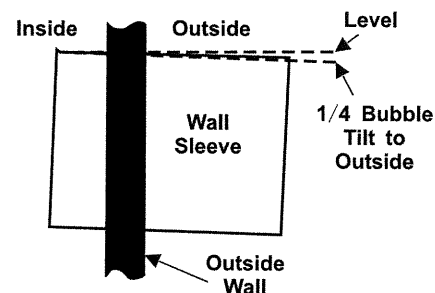

Fig 4 Proper Sleeve Tilt
- A slight downward pitch from the indoor side to the out-door side as shown below (Fig 4).